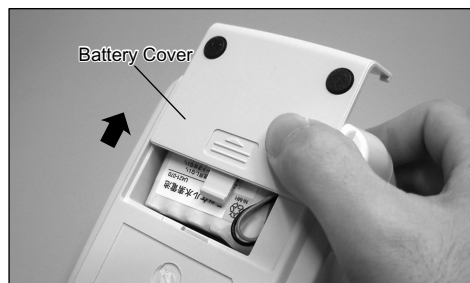

Fig. 13
- ① Turn off the power. Remove the AC adapter.
- ② Remove the batteries after sliding the battery cover on the back of the control unit in the direction of the arrow. (Fig. 13)